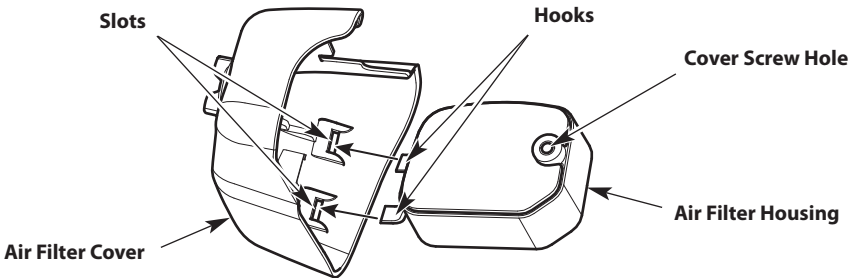

Fig. 13
7. Insert the hooks on the air filter housing into the slots on the air filter cover (Fig. 13).